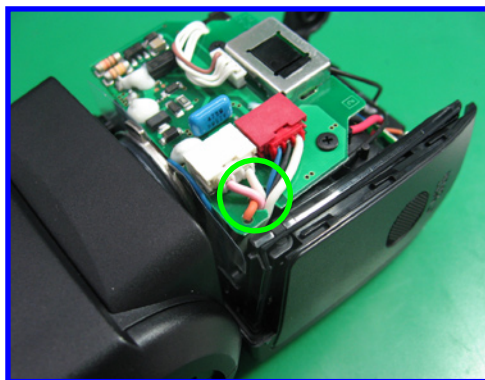

Fig. 013 Battery Case Connector
- ④ Remove the two battery case connectors. (Fig. 013)